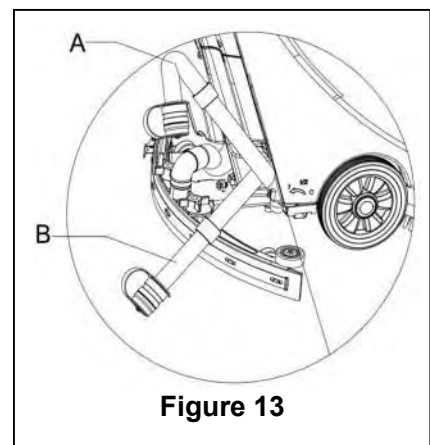

Figure 13
2. By using the squeegee handle (14), lift the squeegee.
4. Grasp the handlebar (2) and gently incline the machine backward until the guide wheel touches the floor. (For docking of the machine please refer to the procedures in the stopping of the machine section.)
5. Take off the draining hose from the fixation clip, bend the top end of draining hose (as shown in **A**, **Figure 13**), and then open the cover of draining hose, lower draining hose to a low level or on the ground to drain the water. Alternatively, directly place draining hose to a low position or on the ground to make the water outlet face downward (as show in **B**, **Figure 13**), and then twist open the water draining lid to drain off the wastewater in the tank. After draining is completed, use pure water to cleanse the inside of recovery tank.
When draining the wastewater, the vacuum tube for waste must be folded or lowered to a lower position (as shown in **Figure 13 A** or **B**), and then open the lid of the vacuum tube for waste to drain the water. Do not make the outlet of the vacuum tube for waste face upward to drain the water vertically. This is to avoid wastewater spilling onto the operator.